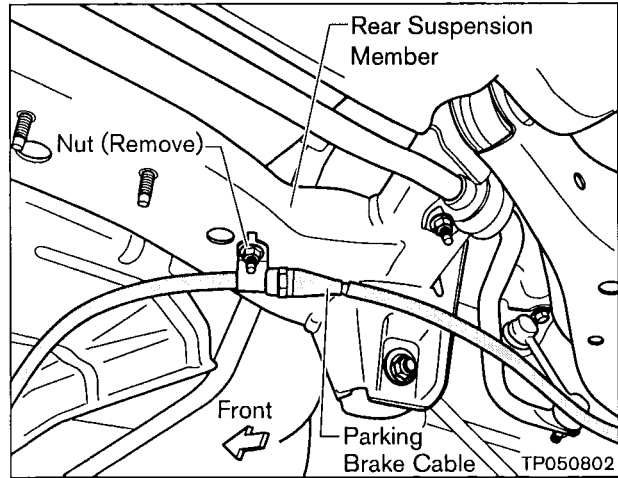

Figure A13
6. Remove the parking brake cables from the rear suspension member (see Figure A13). Let the cables hang down freely.